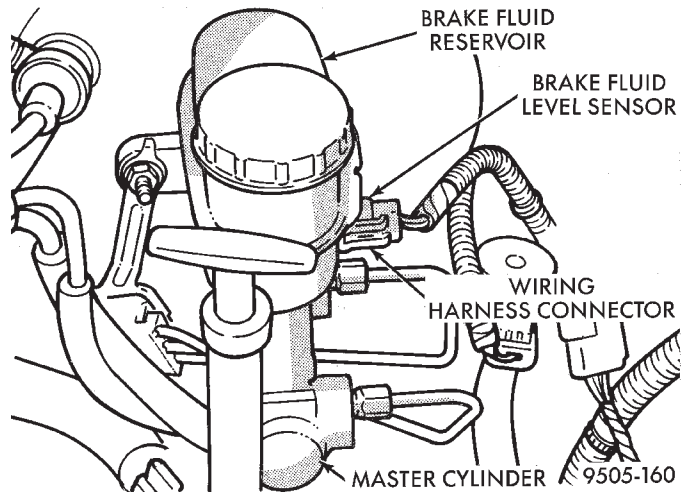

Fig. 50 Master Cylinder Fluid Level Sensor
- (1) Remove wiring harness connector from brake fluid reservoir level sensor (Fig. 50).